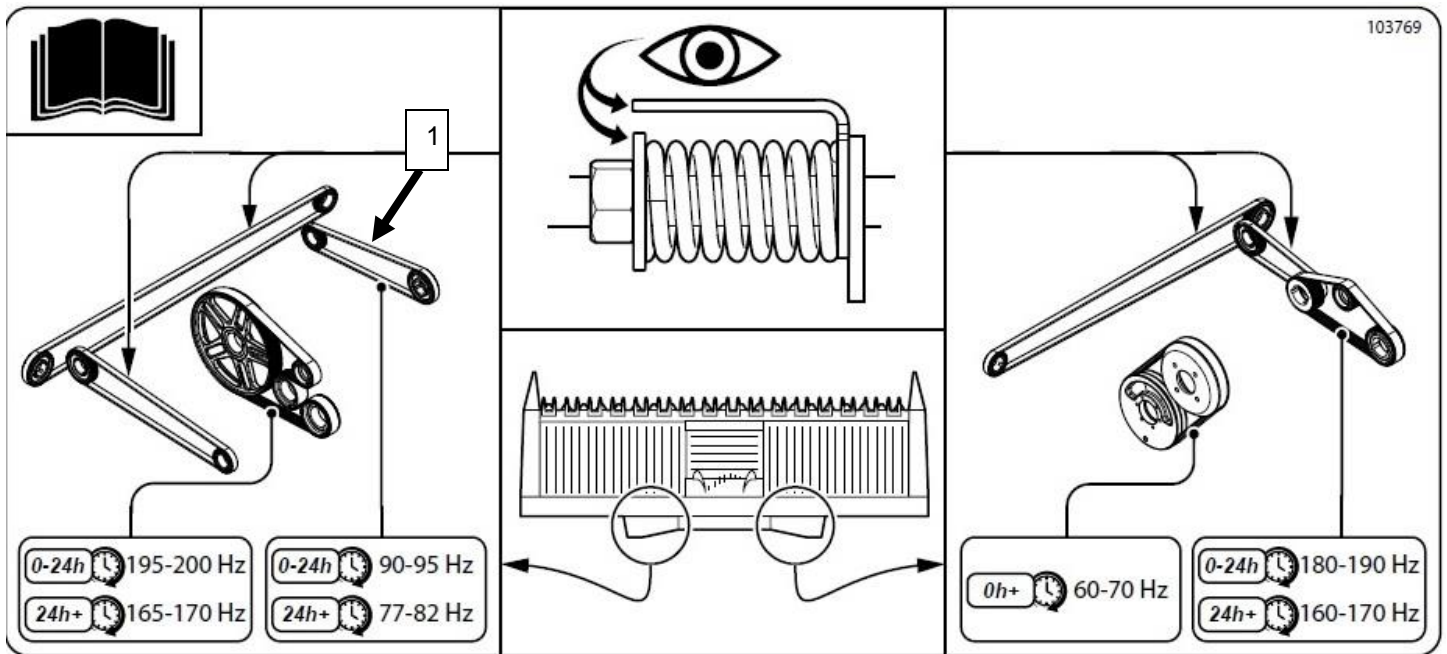

Figure 1
1. We have seen some failures of the drive belts on the AirFlex headers this past season due to improper tension. To help make certain that the belts are tensioned properly a new decal will be added to all headers. This decal shows the proper tension on the belts. (See Figure 1).